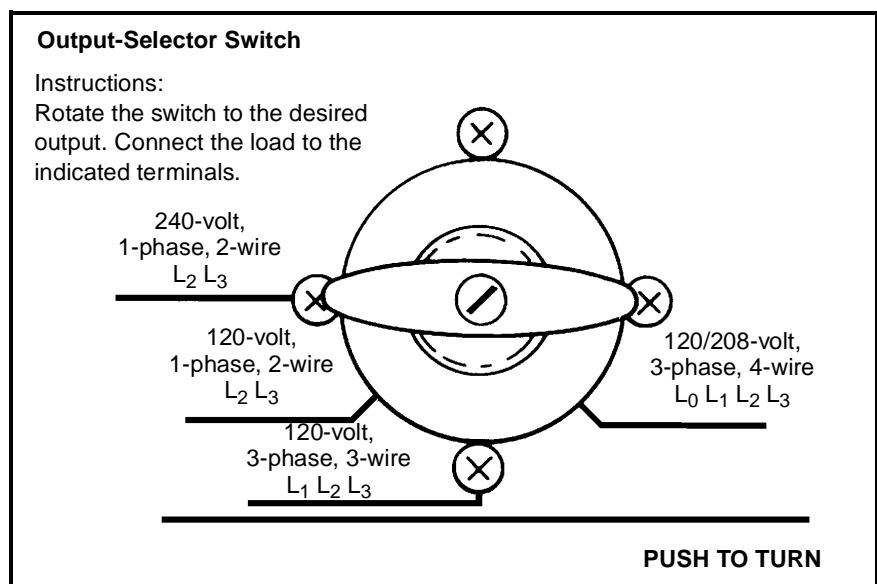

Figure 9-6. Phase-selector switch
Several controls monitor the operation of an AC generator. The *volts-amps selector switch* (5) provides current and voltage readings for each generator phase. A meter is connected to each phase of the main generator. Most switches have six positions that are plainly marked on the face of the selector plate. The *phase-selector switch* (Figure 9-6, page 9-5) changes the output of a generator to match the voltage and phase requirements of the load. This rotary-type switch is used on generators that produce as much as 10 kilowatts of electricity; changeover boards are used for generators that produce 15 or more kilowatts. The *parallel-lights switch* (26) closes the synchronizing-lights circuit in preparation for paralleling two or more power units. It is usually a two-position, rotary or toggle switch. The